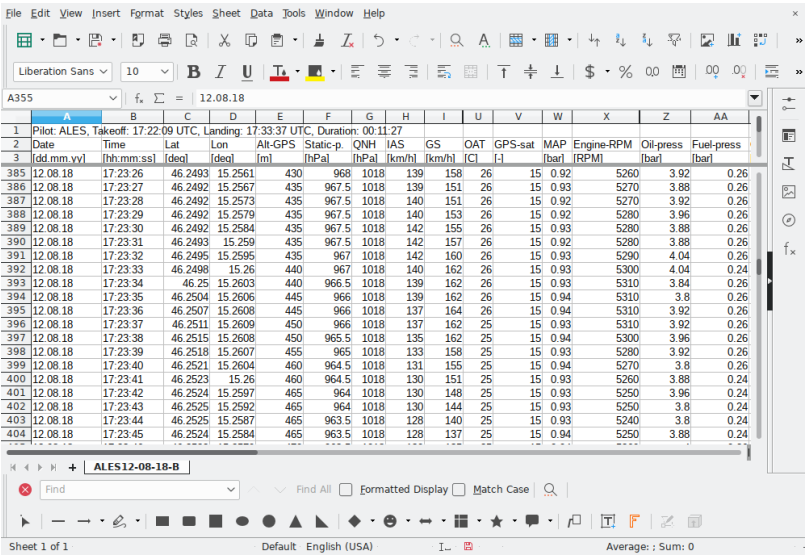

Figure 24: An example of flight details upon successful import.
- The result of the import is then shown in Figure 24. Some column widths were adjusted and some cells were hidden.